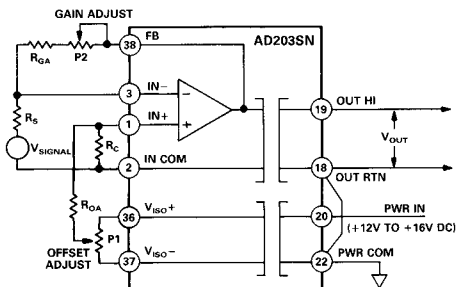

Figure 21. Input Adjustments for the Inverting Mode of Operation
**Offset Adjustment.** Figure 21 shows the suggested input adjustment connections when the isolator's input amplifier is config-
**Gain Adjustment.** Figure 21 also shows the suggested gain adjustment circuit. In this circuit, the gain adjustment is made in the feedback loop using potentiometer P2. The adjustments will be effective for all gains in the 1 to 100 V/V range.